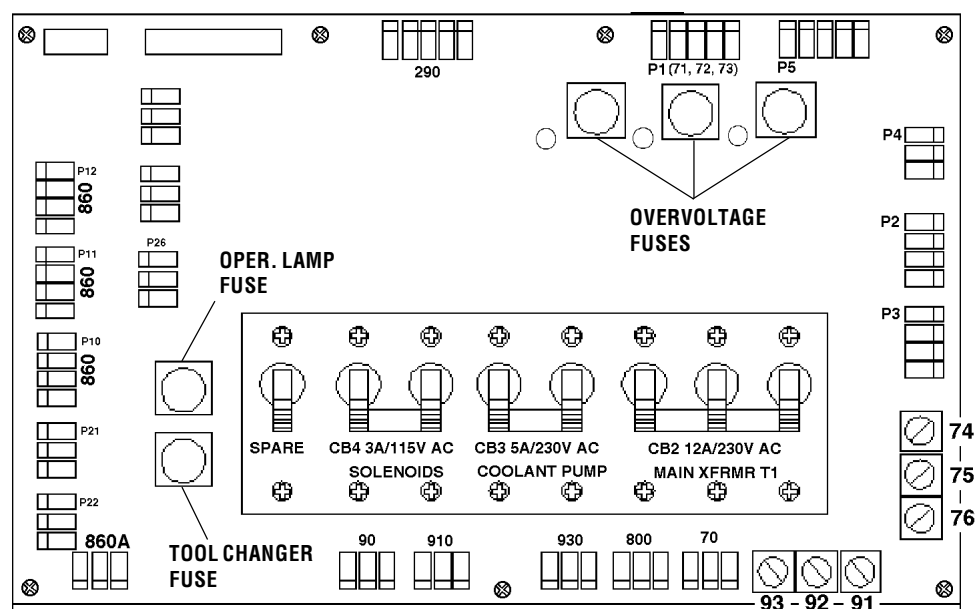

Fig. 3-7 Power Distribution (POWER) board.
4. Disconnect all leads to the Power Distribution (POWER) board and move aside for removal. Ensure all cables are properly labeled for reconnecting later. Fig. 3-7 shows all cable numbers and the locations on the POWER board.